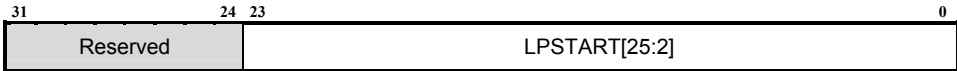
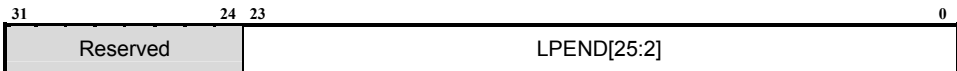

Figure 16 Loop Start Register
Figure 17 Loop End Register
The loop start (LP_START) and loop end (LP_END) registers contain the addresses for the zero delay loop mechanism. Figure 16 and Figure 17 show the format of these registers. The loop start and loop end registers can be set up with the special loop instruction (LP) or can be manipulated with the auxiliary register access instructions (LR and SR).